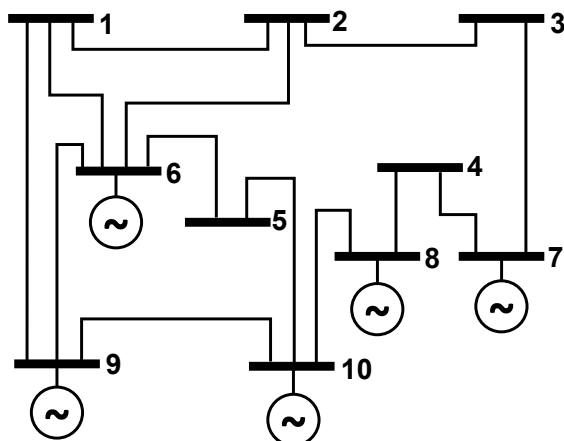

Figure 1
A three-phase power system network consisting of 10 buses on the same base power is as shown in Figure 1.
The reactance (in p.u.) of the lines in the network shown in Figure 1 is:
- Using PowerWorld software, construct the 10-bus power system as shown in Figure 1 using the data given in the Table. Set Bus 10 as the 'slack bus' (reference bus). Use 'MVA Base' as 100 MVA and nominal voltage at every bus as 132 kV. Set all load at the buses to 100 MW each. Set the maximum limit of every generator and lines to 10000 MW and 10000 MVAR. Simulate the system.